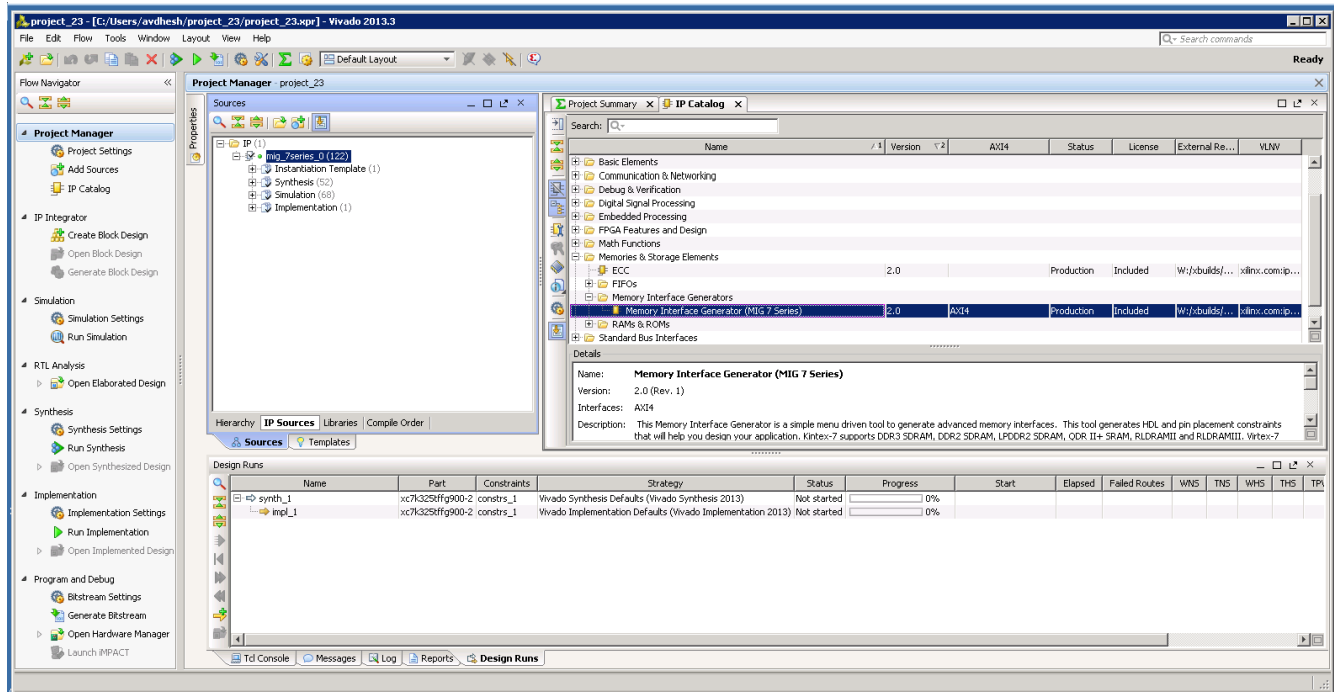

Figure 1-31: Vivado Tool Project Window (After IP Generation)
- After generating the MIG core design, the project window appears as shown in Figure 1-31.